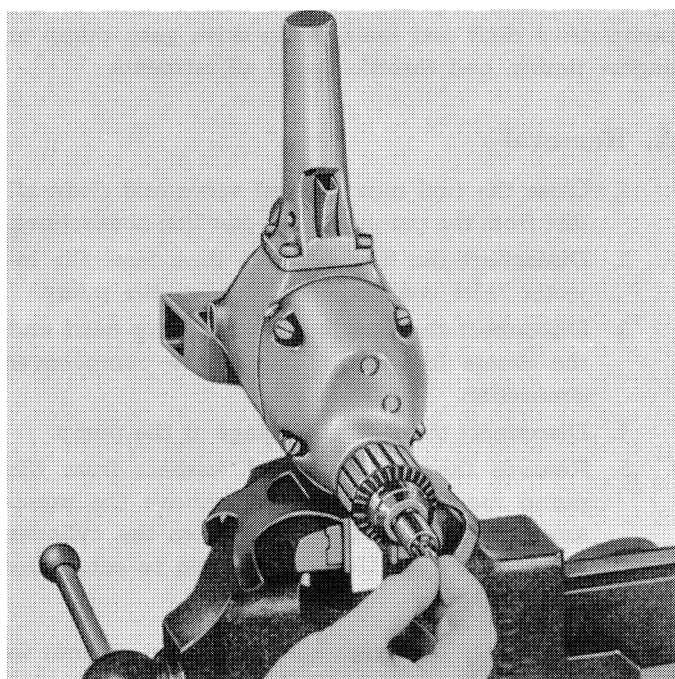

Figure 17—Lapping Needle in Nozzle
8. If the back-leakage test was slower than forty-five seconds, or the valve sticks slightly, this can be corrected by remating the needle and the nozzle assembly, as shown in Figure 17. This is accomplished by using the special polishing compound consisting of tallow and a small amount of the finest lapping compound, Kent-Moore Part No. J8537-28, and then following one of the two methods given below.